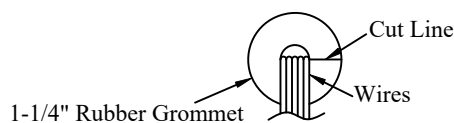

Figure 7: Wire Grommet
2. **Cut** the 1 1/4" rubber grommets from the inner hole out (Figure 7).
3. **Place** the 1 1/4" rubber grommets around wires (Figure 7)